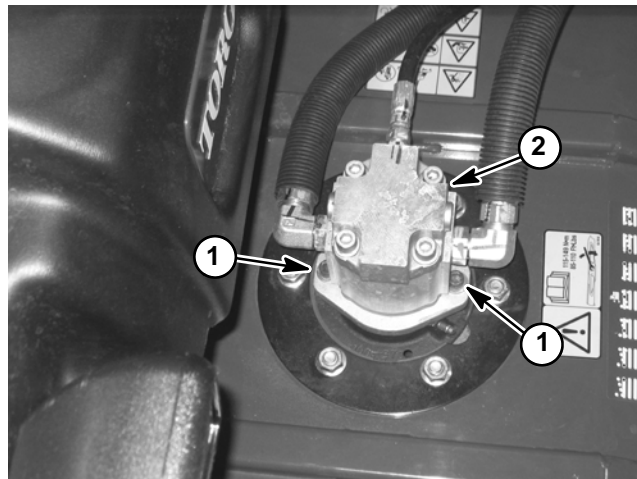

Figure 72
5. Remove two (2) socket head screws and flat washers that secure hydraulic motor to cutting deck (Fig. 72).
4. Secure motor to cutting deck with two (2) socket head screws and flat washers (Fig. 72).